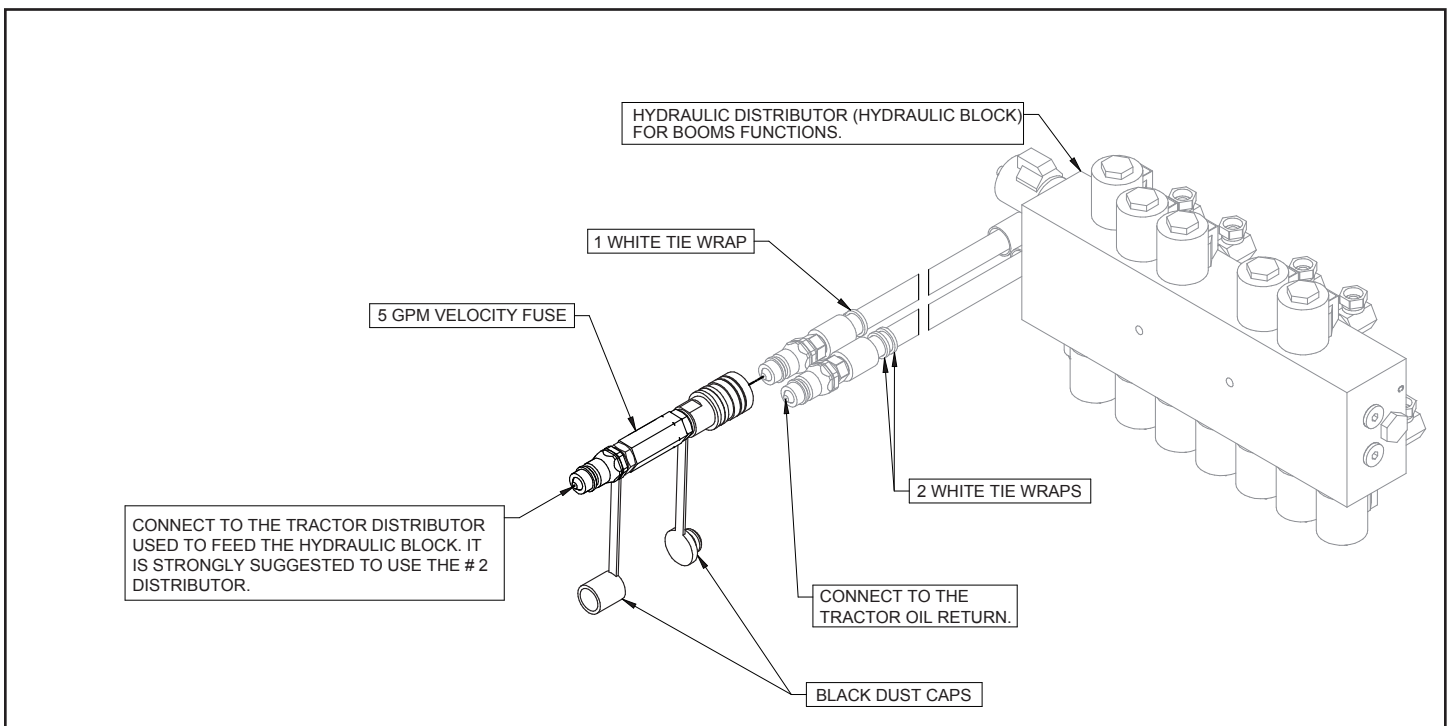

Figure 21
1. Take the 5 gpm hydraulic velocity fuse with BLACK anti-dust caps and connect it between the #2 distributor of the tractor and the boom function's hydraulic block (**figure 21**). It is recommended to use the #2 distributor to feed the hydraulic block.